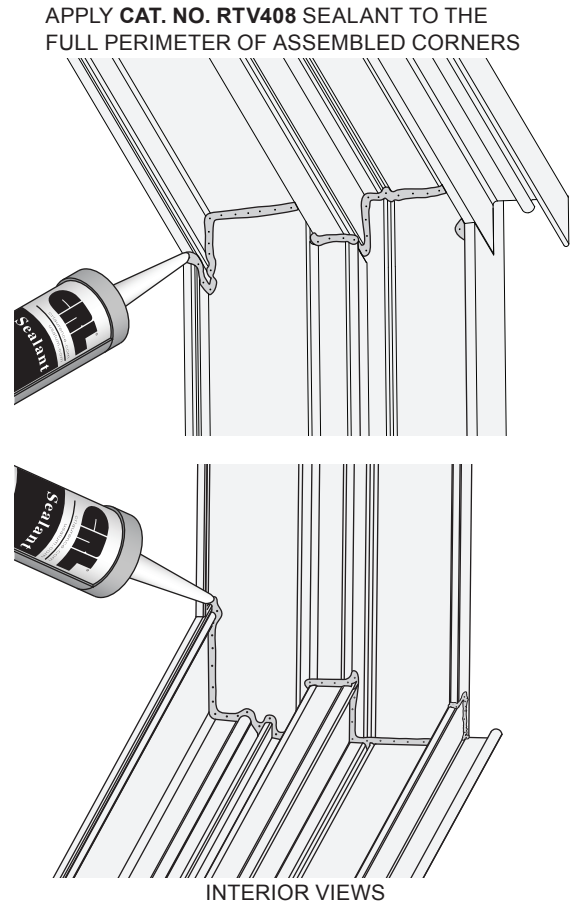

FIG. 2
4. Apply **Cat. No. RTV408** sealant to assembled corners. (FIG. 2)